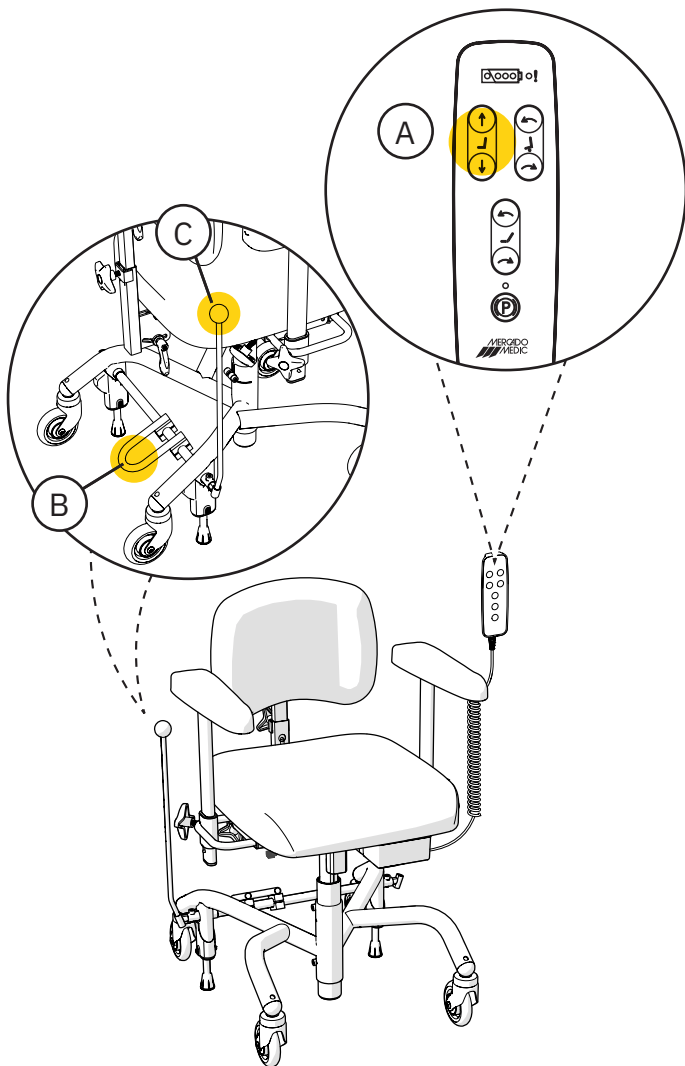

Figure 2.2. Controls on real 8000 PLUS EL 24V Easy low.
The product is equipped with electric height adjustment (A) and is controlled by a wired hand-held controller or wireless remote control, see Figure 2.2. The device is also equipped with manual foot brake and hand brake. The manual foot brake (B) is activated and deactivated via a pedal and the manual handbrake (C) is activated by pushing the brake lever forwards and deactivated by pulling the brake lever backwards, see Figure 2.2. We recommend not mounting the brake lever if you intend to use the foot brake. See 5. Configurations and settings for detailed information about all the features and controls of the device.